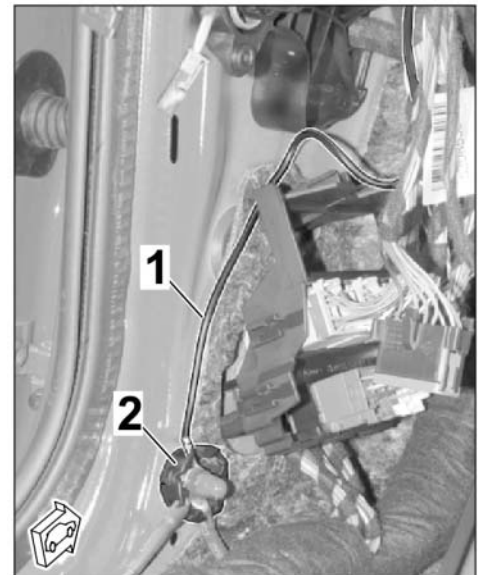

Figure 16
3.2.6 Route line BK; 0.5² (terminal 31) to the ground pin MB21, shorten it and install it on the ground pin using cable ring eyelet A6 (⇒ *Figure 16*).